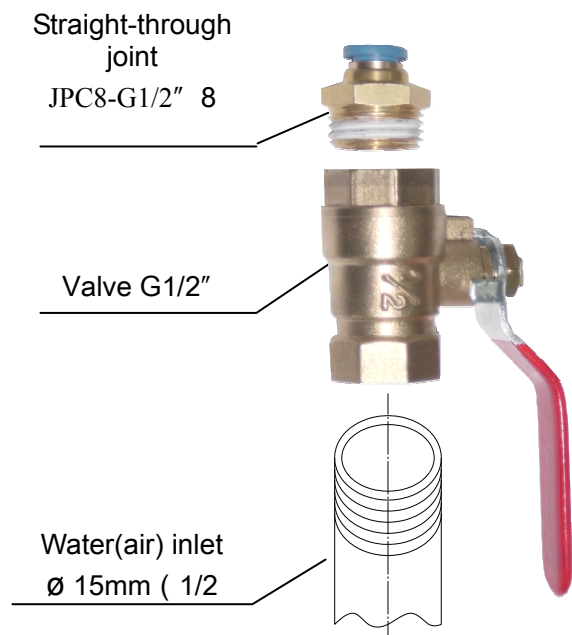

Fig 14
- **Connection of air pipe and water pipe (Fig.14)**
Regularly clean the sediment in the filter screen of high vacuum filter. As showed in Fig. 14, when cleaning, take out filter screen, clean it with small brush, rinse it out and then mount it in turn according to the diagram.